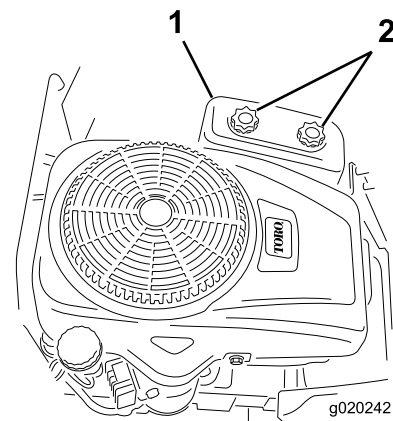

Figure 35
3. Remove the air-cleaner cover by unscrewing the 2 knobs (Figure 35).
3. Install the air-cleaner cover, and tighten the 2 knobs (Figure 35).